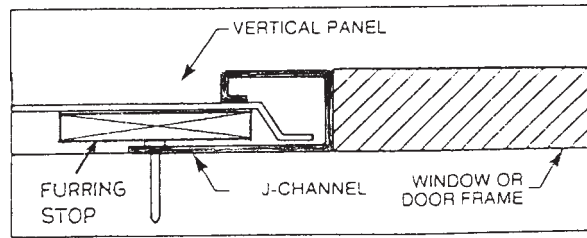

FIG. 29 Fastening of Wood Furring Stop
10.8.1 If the panel is cut down in the V-groove, fasten a wood furring stop as shown in Fig. 29, with fasteners that do not
penetrate the legs of the J-channel or corner post, insert the cut side over the furring stop and into the J-channel, locking the other side into the last panel. (See Fig. 29.)